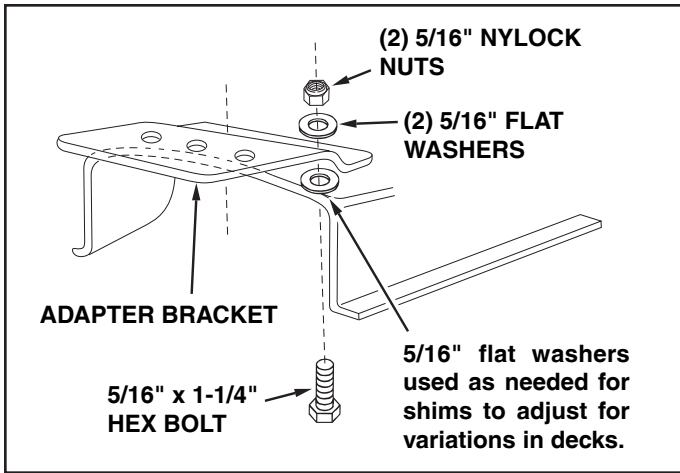

FIGURE 32
7. Assemble the adapter bracket to the deck using two 5/16" x 1-1/4" hex bolts, 5/16" flat washers and 5/16" nylock nuts. See figure 32.
NOTE: It may be necessary to use extra 5/16" flat washers to shim under the bracket next to the deck surface. Ten extra washers have been furnished as shims. See figure 32.